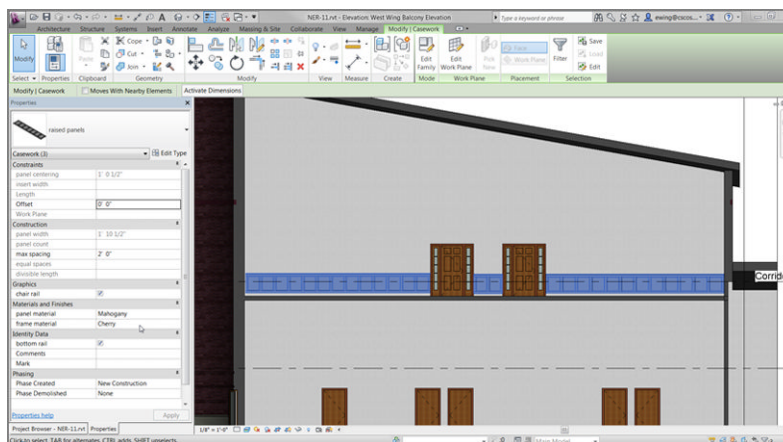

FIGURE 10.78: Changing the material
21. Change Panel Material to Mahogany. See Figure 10.78.